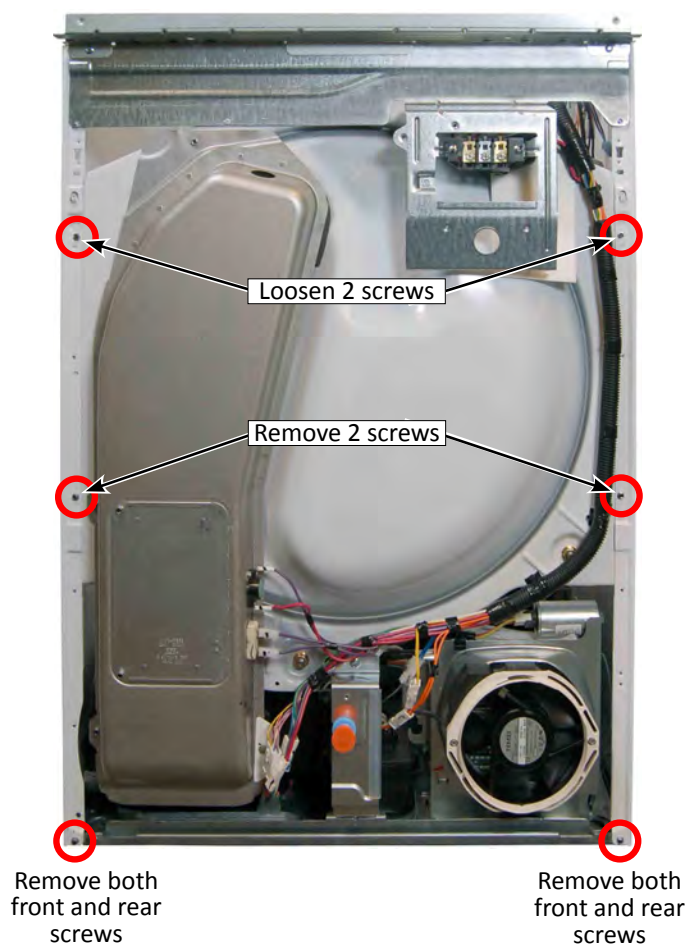

Figure 5
14. Remove the bottom two (2) 1/4" hex-head screws from the rear bulkhead. Loosen the top two (2) 1/4" hex-head screws at the keyhole slots. See Figure 5.
16. Remove the two (2) 1/4" hex-head screws securing the front and rear lower right side panel to the base assembly. Lift up on the right side of the base assembly to disengage the right side panel and remove. See Figure 5.
17. Remove the two (2) 1/4" hex-head screws securing the front and rear lower left side panel to the base assembly. Lift up on the left side of the base assembly to disengage the left side panel and remove. See Figure 5.